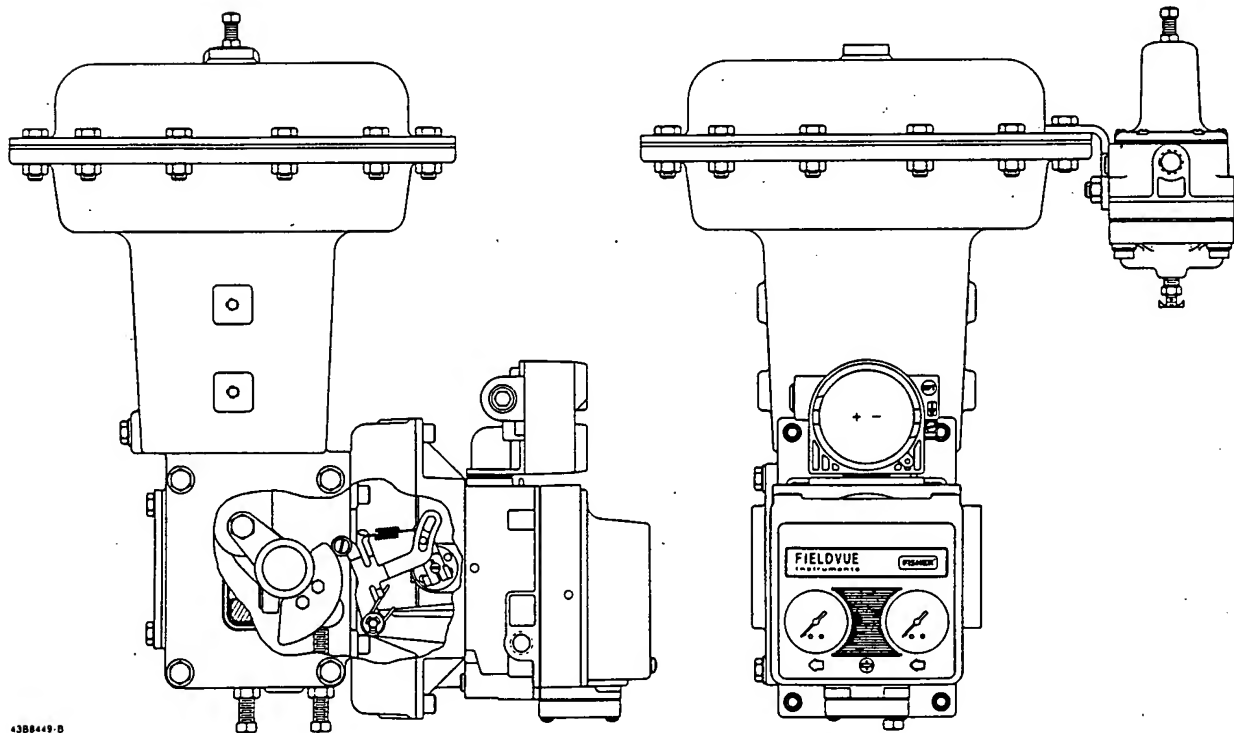

Figure 11. Optional Casing-Mounted Filter Regulator
For optional casing mounting, use the separate Type 67AFR filter regulator casing mounting bracket provided with the filter regulator. Attach this mounting bracket to the Type 67AFR and then attach this assembly to the actuator casing. Thread a 1/4-inch socket-head pipe plug (key 61) into the plug side outlet on the filter regulator. The O-ring (key 60) is not required. Refer to figure 11.